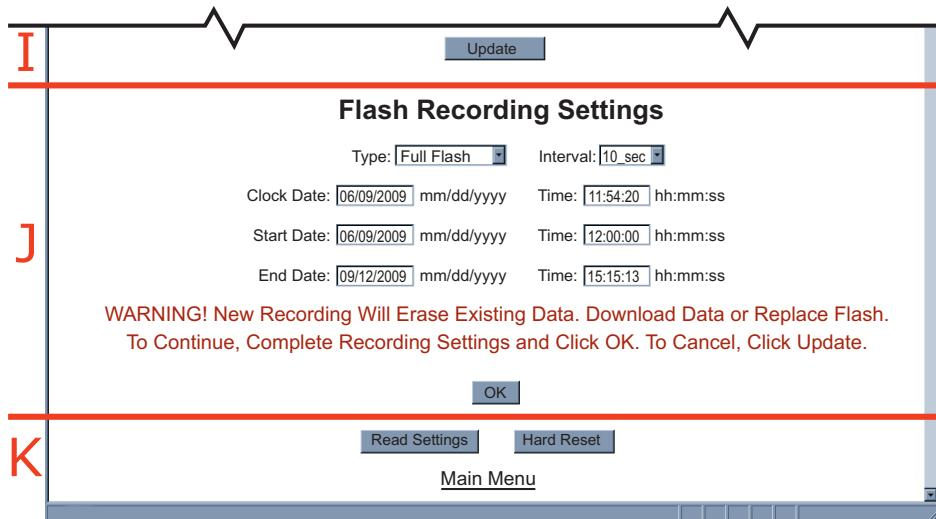

Figure 4.12 Configuration - Flash Recording Settings
Once the button is clicked the Configuration page will look slightly different, it will have new fields and a Warning message will appear, see Figure 4.12 .
K) Read Settings: Click this button, followed by clicking the “Update” button **Section I (Figure 4.12)**, to retrieve the latest Recording Settings and Status.